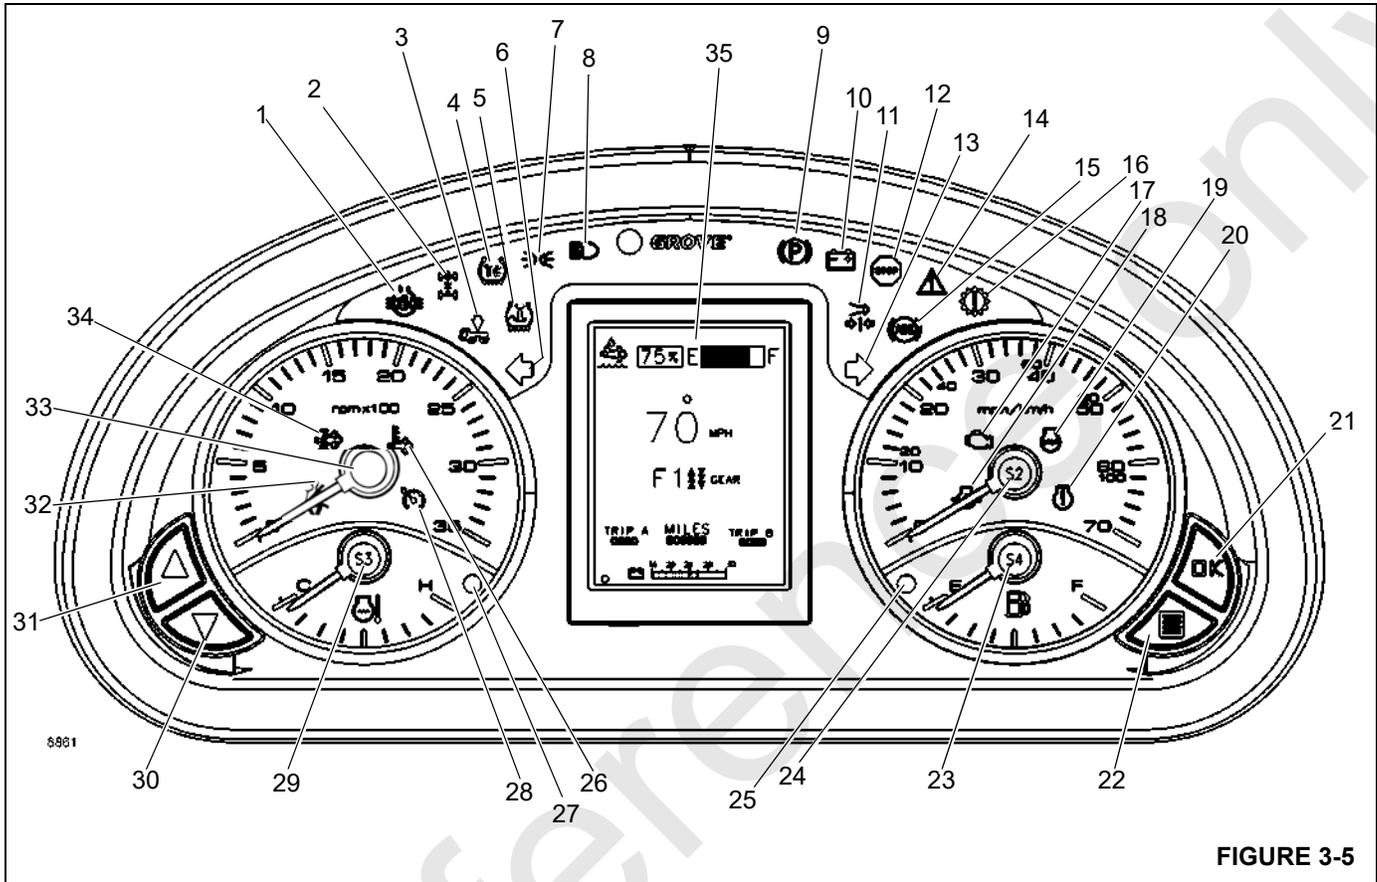

FIGURE 3-5
The Control Panel Indicator and Gauge Display (24), (Figure 3-4) back lighting brightness is not controlled by this switch. The back lighting controls for it can be accessed by selecting the menu button located on the Control Panel and Gauge Display. See Item (22), (Figure 3-5) for the location of the Menu Button.
The Control Panel Indicator and Gauge Display (24), (Figure 3-4) and detailed in (Figure 3-5) is located in the center of the front console. It includes indicator lamps and gauges that provide information on the engine, transmission, brakes, and other systems.
The Cross-Axle Locked Indicator (1), (Figure 3-5) (aka Differential Locked Indicator) is located at the left side of the gauge cluster. The indicator illuminates Amber to show that the differential is locked.
The Inter-Axle Locked Indicator (2), (Figure 3-5) is located at the left side of the gauge cluster. The indicator illuminates Amber to show that the inter-axle is locked.
The Suspension Deflated Indicator (3), (Figure 3-5) is located on the left side of the gauge cluster. The Amber indicator illuminates when the air is removed from the suspension air bags.
The Traction Control Indicator Lamp (4), (Figure 3-5) is the primary indicator of the traction control status.
The Tire Inflation ON Indicator (5), (Figure 3-5) is located on the left side of the gauge cluster. The indicator illuminates Amber when the pressure switch in the tire inflation system is activated. In addition to illuminating the indicator, a warning buzzer will sound.
The Left Turn Signal Indicator (6), (Figure 3-5) is located on the left side of the gauge cluster. It is a Green indicator light that flashes when the turn signal lever or hazard switch is activated.
The Lights ON Indicator (7), (Figure 3-5) is located on the left side of the gauge cluster. It illuminates Green when the headlights or marker lights are on.
The Headlight High Beam Indicator (8), (Figure 3-5) is located at the top left center of the gauge cluster. The indicator illuminates Blue when the headlights are on high beam.
The Parking Brake Engaged Indicator (9), (Figure 3-5) is located at the top right of the gauge cluster. The indicator illuminates Red when the crane parking brakes are applied.
The Battery Charge Indicator (10), (Figure 3-5) will illuminate Red when any of the following conditions are met, key switch is OFF but the headlights or turn signals are left on, the key switch is turned to the IGNITION position, the engine is running and the alternator charge signal is missing, or the system battery voltage or engine ECM voltage falls below 18V or goes above 30V. If both the carrier and superstructure key switches are OFF this light will not be on.
The Low Air Pressure Indicator (11), (Figure 3-5) is located on the right side of the gauge cluster. It illuminates Red when the pressure in the air brake system falls below normal operating requirements. A warning buzzer will also sound.
The Emergency Stop Indicator (12), (Figure 3-5) is located on the right side of the gauge cluster. It illuminates Red when an Emergency Stop Switch is pushed in (refer to Emergency Stop Indicator, page 3-14) and a warning buzzer will sound.
The Right Turn Signal Indicator (13), (Figure 3-5) is located on the right side of the gauge cluster. It is a Green indicator light that flashes when the turn signal lever or hazard switch is activated.
The System Fault Indicator (14), (Figure 3-5) is located on the right side of the gauge cluster. It illuminates amber when any crane system fault is active.
The Anti-Lock Braking System (ABS) Indicator Lamp (15), (Figure 3-5) is the primary indicator of the ABS status.
The Check Transmission Indicator (16), (Figure 3-5) is located on the right side of the gauge cluster. It illuminates Red when commanded by the TCU (transmission control unit) via SAE J1939 serial communications. A warning buzzer will also sound.
The Malfunction Indicator Lamp (MIL) (17), (Figure 3-5) illuminates Amber when there is an emission related system error. When this indicator illuminates have the crane serviced as soon as possible.
The Low Oil Pressure Indicator (18), (Figure 3-5) is located in the speedometer. It illuminates Red as commanded by the engine ECM via SAE J1939 serial communications.
The Engine Stop Indicator (19), (Figure 3-5) is located in the speedometer. The indicator illuminates Red when energized by a signal from the engine ECM that signifies a serious engine problem that requires the vehicle and the engine to be stopped as soon as safely possible. In addition, a warning buzzer will also sound.
The Engine Warning Indicator (20), (Figure 3-5) is located in the speedometer. It illuminates Amber when energized by a signal from the engine ECM that signals the operator of an engine problem which must be corrected.
The OK Button (21), (Figure 3-5) is used to accept the current display screen on the LCD display.
The Menu Button (22), (Figure 3-5) is used to scroll through the LCD display screens.
The Fuel Level Gauge Indicator (23), (Figure 3-5) is located on the right side of the gauge cluster. The gauge indicates the quantity of fuel in the fuel tank and has a scale calibrated from E (Empty 0%) to F (Full 100%). The fuel gauge receives a signal from the engine ECM via SAE J1939 serial communications.
The Speedometer (24), (Figure 3-5) is located on the right side of the gauge cluster. The speedometer indicates road speed in both km/h (kilometers per hour) and mph (miles per hour).